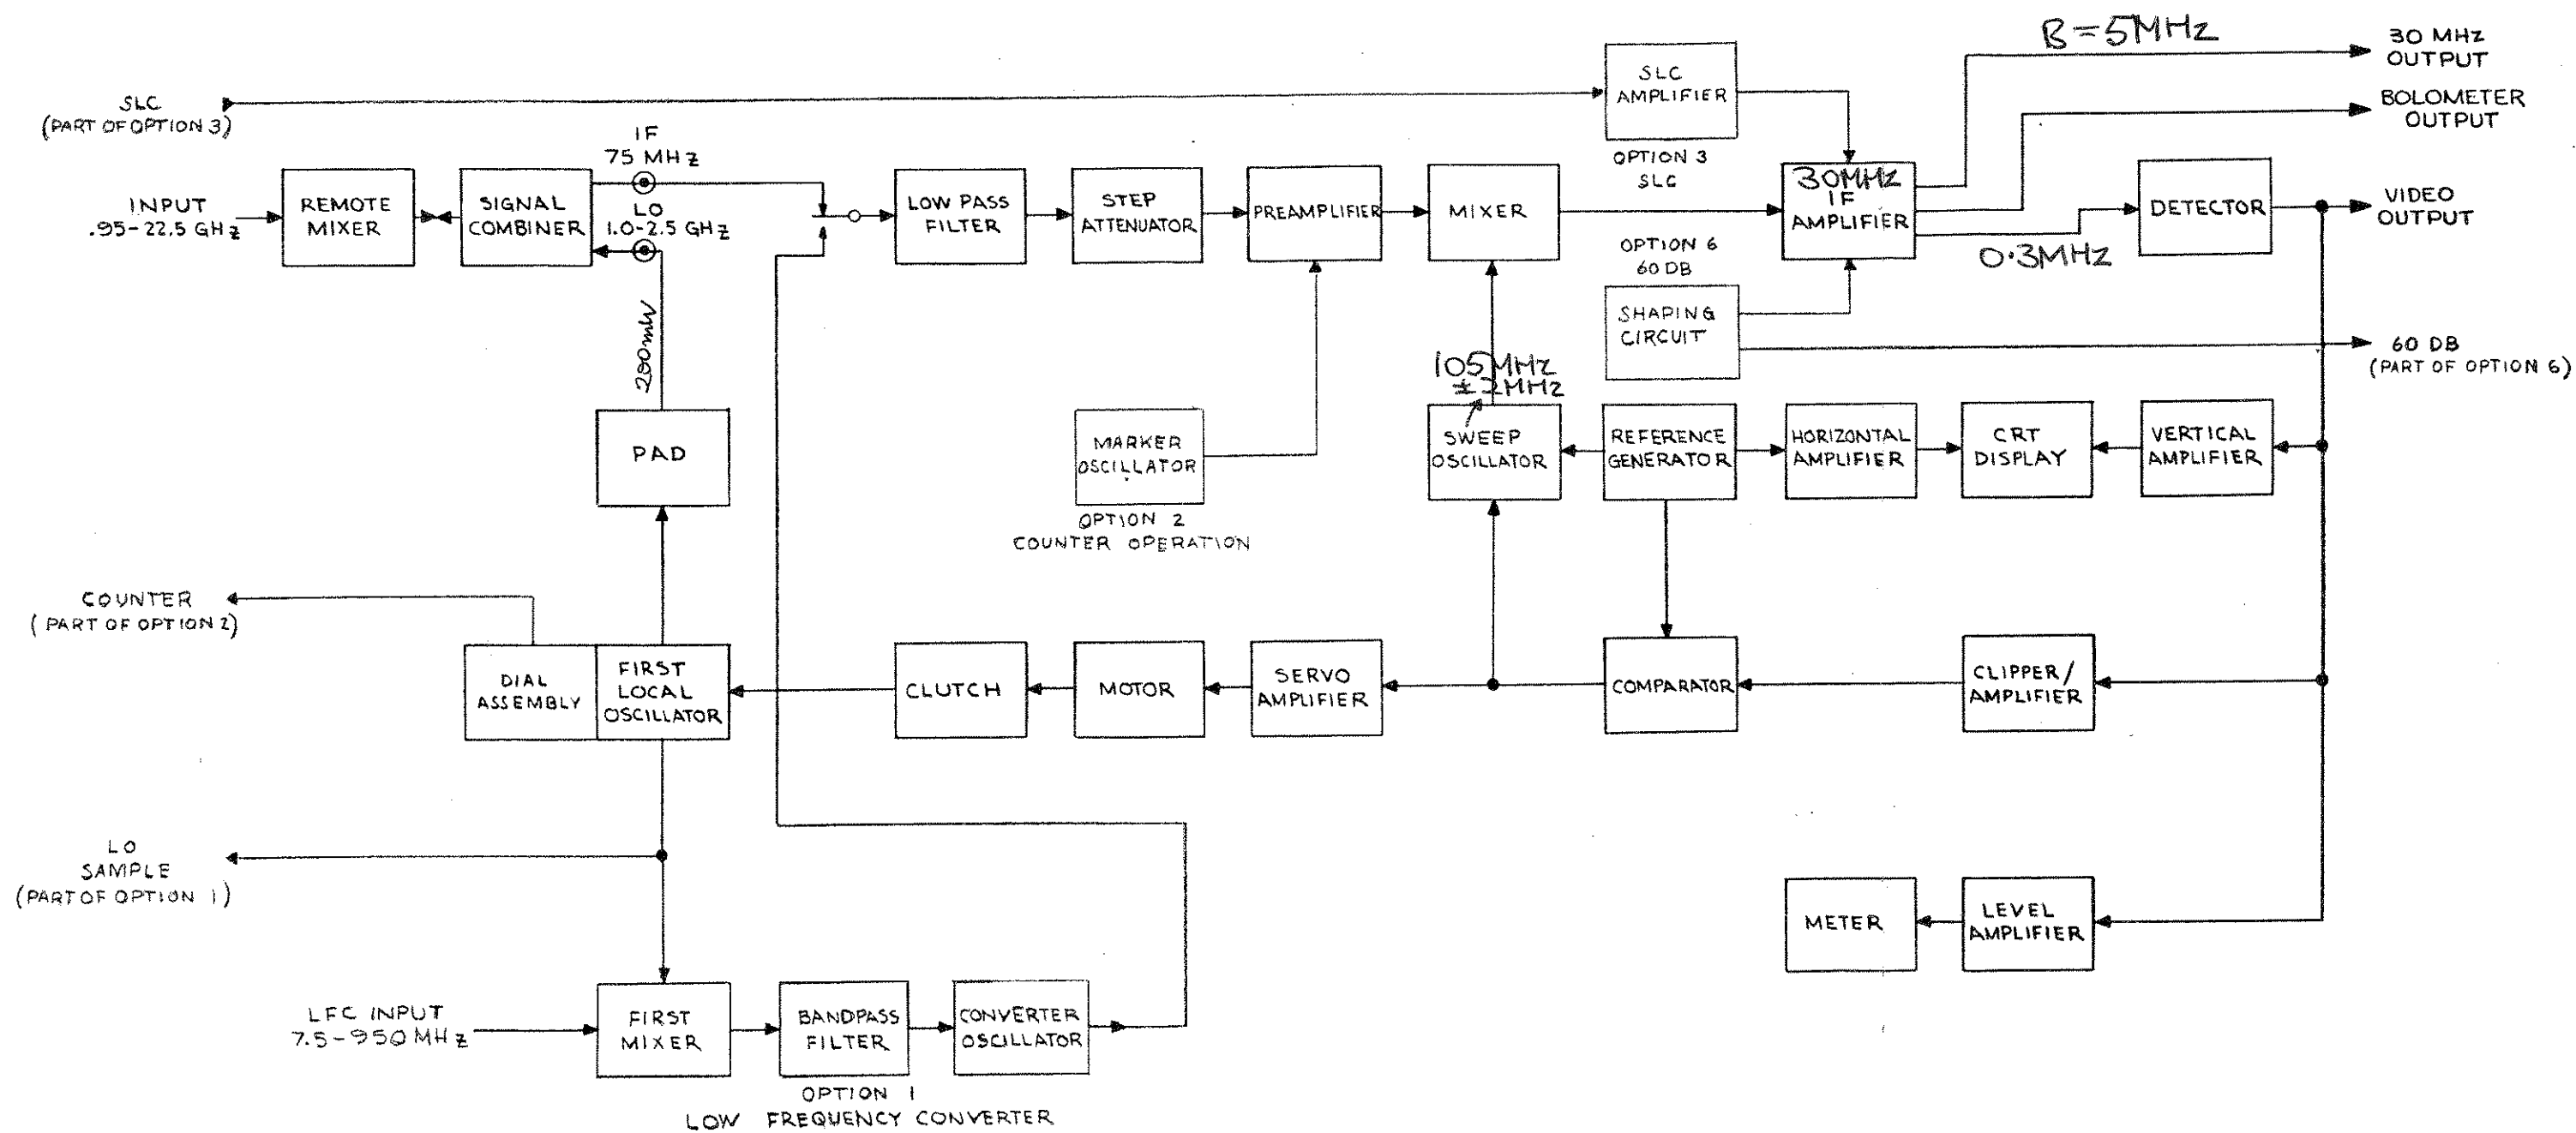

Figure 1-2. Receiver, Simplified Block Diagram
1.3 PRINCIPLES OF OPERATION (Figure 1.2)